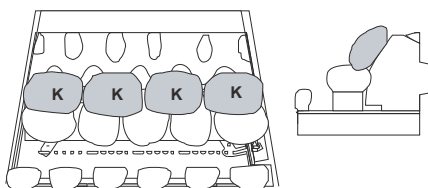
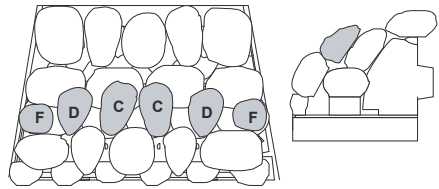

Figure 31
Figure 34
5. Proceed with laying the rest of the pebbles in accordance with **Figure 31** to **Figure 34**.